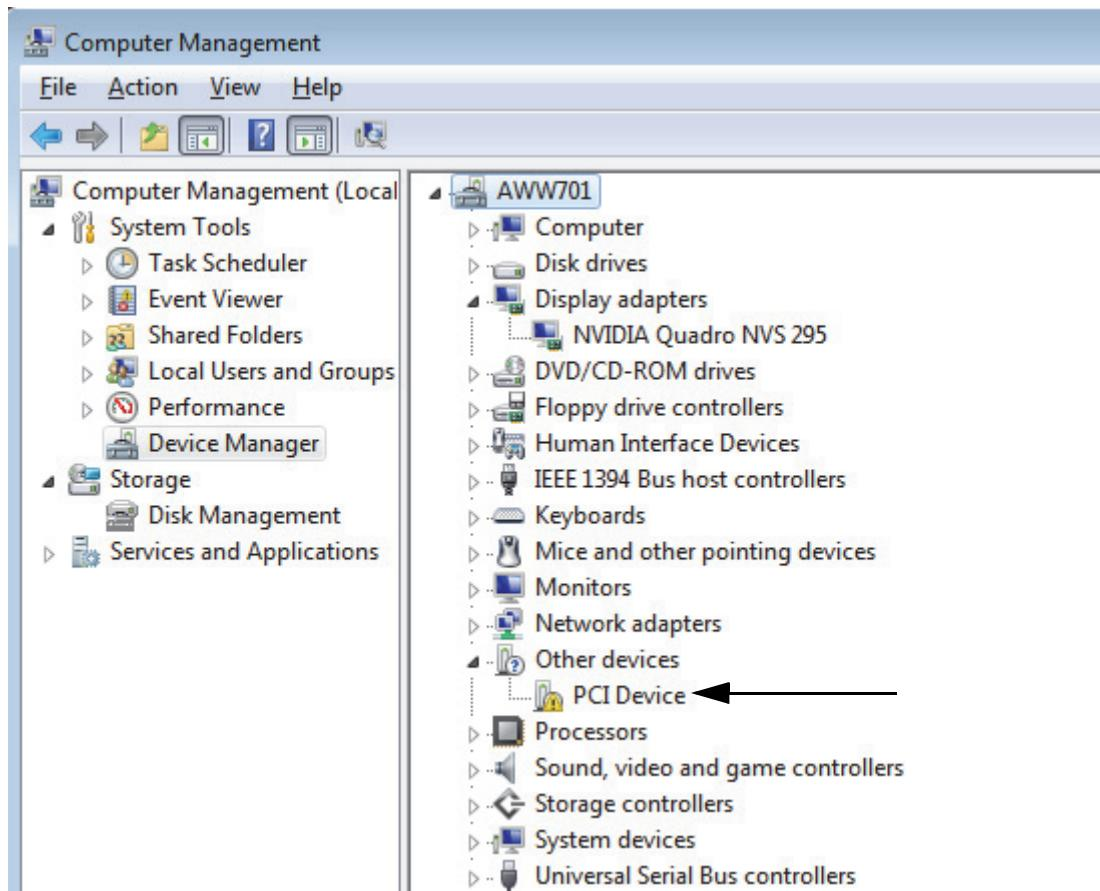

Figure 5-18. Device Manager Other Devices PCI Device Window
3. In the Device Manager, the Spectracom time card appears under Other Devices as “PCI Device”, appears as shown in Figure 5-18.